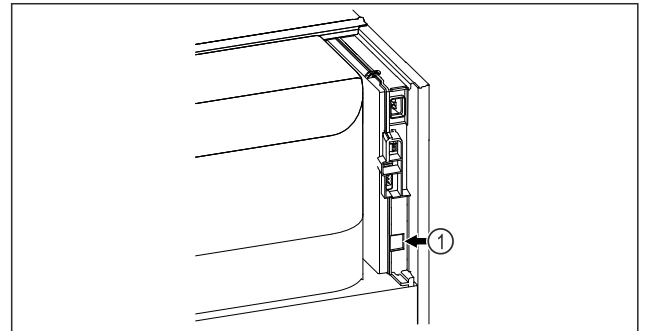

Fig. 92
- SmartModule Fig. 92 (1) is in use.